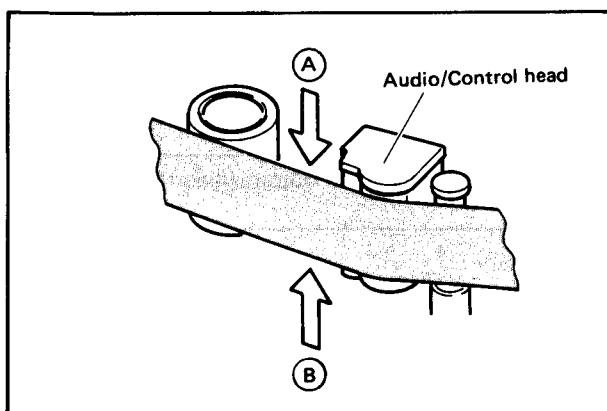

Fig. 4-53 Audio head height check
3. Check that the audio output level increase does not exceed 0.5 dB as the tape is lightly pressed down at point **(A)** as shown in Fig. 4-53.
4. In the same manner, check that the audio CH-2 level increase does not exceed 0.5 dB as the tape is lightly pushed up at point **(B)** as shown in Fig. 4-53.